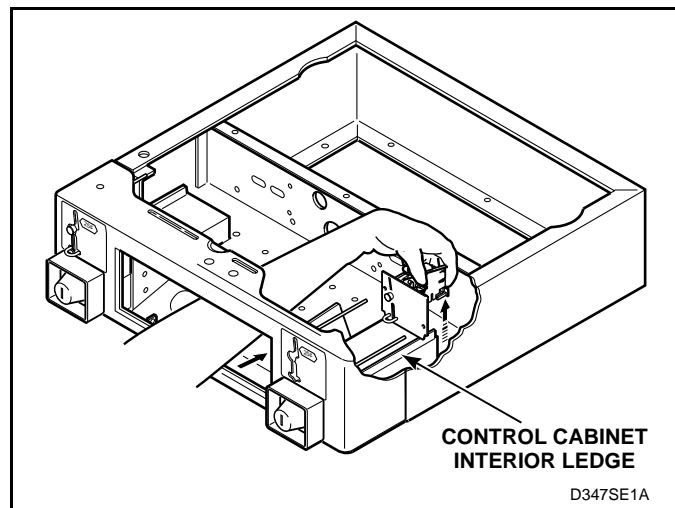

Figure 22
- (1) Reinstall drop through front opening of control cabinet. Gently lift the drop up onto control cabinet's interior ledge. See *Figure 22*.